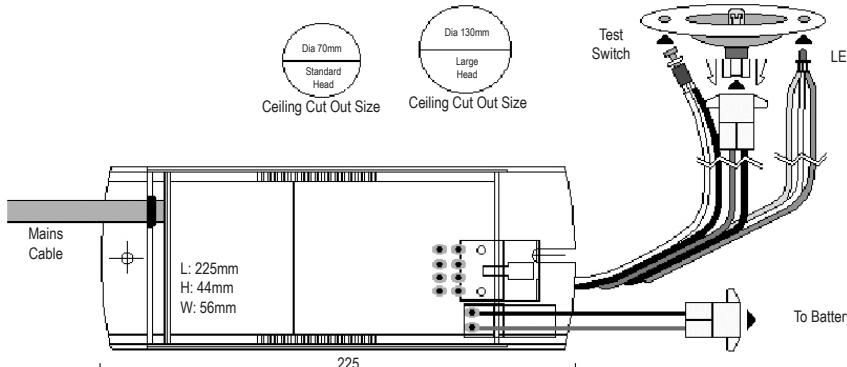

Figure 1: Spitfire/Whitefire Control Pack and Lamp Head Connection Diagram
3. After mounting control and battery pack to their position, connect the lamp head plug assembly to the control pack. Fit the LED and test switch to the lamp head as shown in Figure 1. Fit the quartz halogen QL lamp. Connect the battery plug from control pack (red & black wire) to the battery pack. Note: The battery pack can also be attached to the control pack with the cable tie supplied.